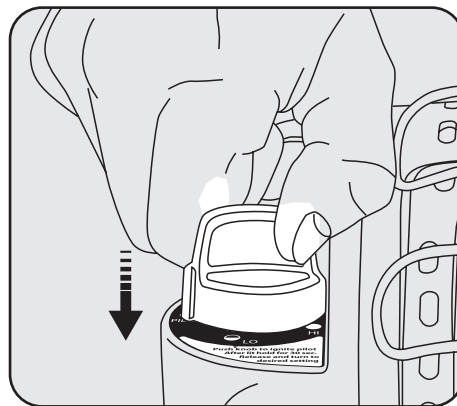

Figure 5
5. Depress and turn Control Knob counterclockwise to "PILOT" position. See Figure 5. Ignitor will spark to light the pilot burner. Hold control knob down in "Pilot" position for 30-60 seconds.
7. Depress and turn Control Knob counterclockwise to "PILOT" position and hold down for 1 - 5 seconds. See Figure 5. This may take longer to purge air from the supply hose depending on the length of the hose being used.